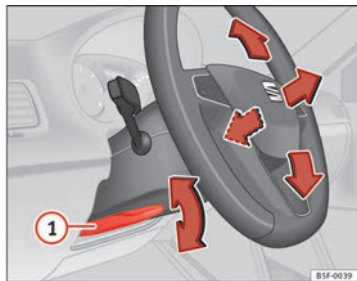

Fig. 85 Lever in the lower left side of the steering column
- Press the lever ① ⇒ Fig. 85 down ⇒ ⚠